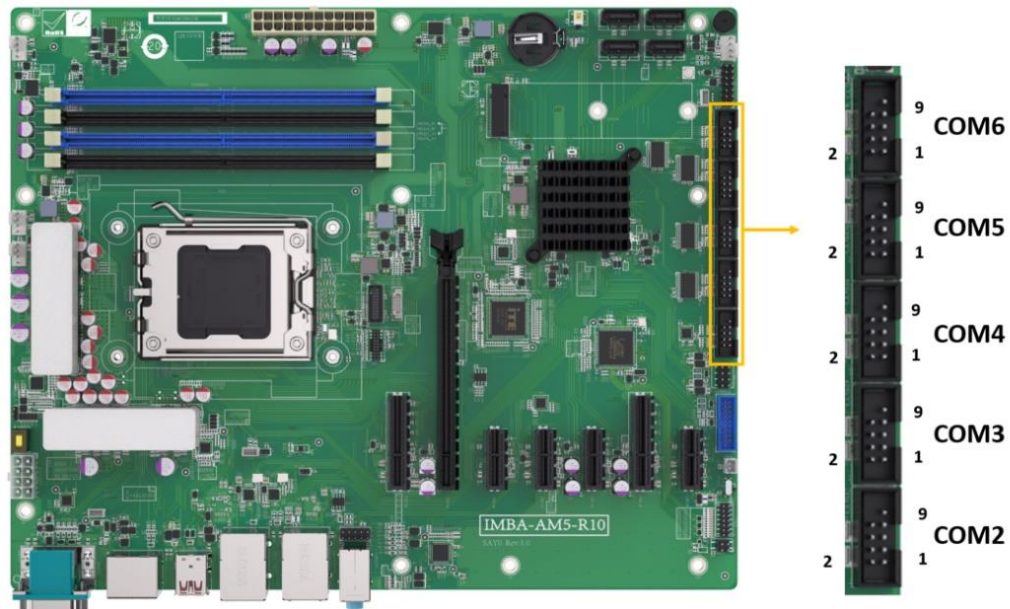

Figure 4-26: RS-232 Connector Location
- CN Location:** See Figure 4-26